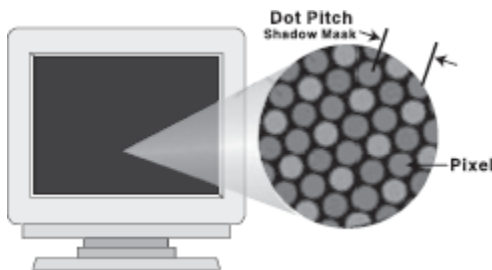

Figure 4.44 Dot Pitch
- **Dot Pitch:** It is the measurement of the diagonal distance between two like-coloured (red, green or blue) pixels on a display screen. It is measured in millimetres and common dot pitches are .51 mm, .31 mm, Pixel .28 mm, .27 mm, .26 mm and .25 mm. The Figure 4.44 Dot Pitch smaller the dot pitch, the sharper will be the image when displayed on the monitor. Generally, a dot pitch of less than .31 mm provides clear images. Multimedia and desktop-publishing users typically use .25 mm dot-pitch monitors (see Figure 4.44).